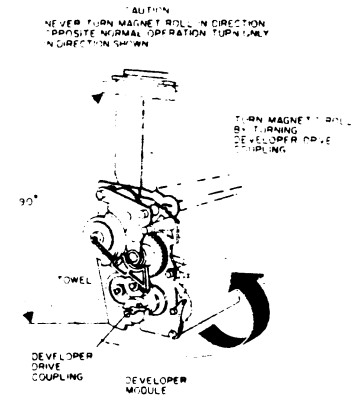

Figure 3. Putting the Developer onto Magnetic Roll
- 1 REPLACE DEVELOPER (FIGURE 3).